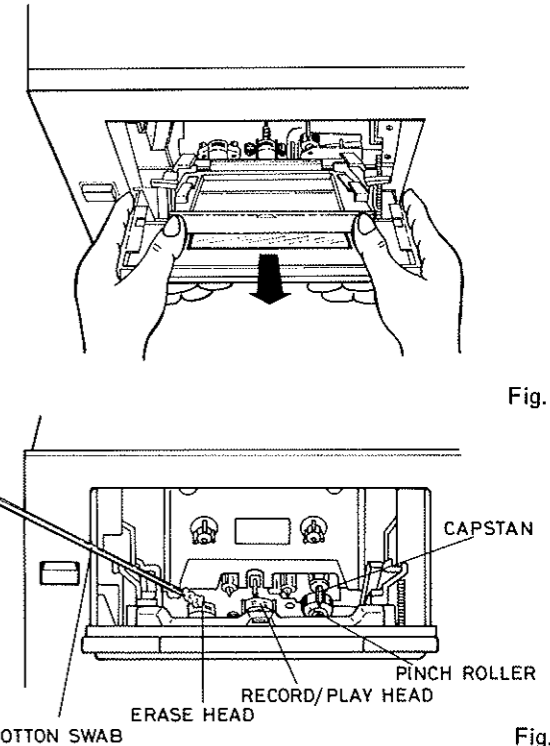

Fig. 8
2. Remove the cassette compartment lid (part of window) as figure 8.